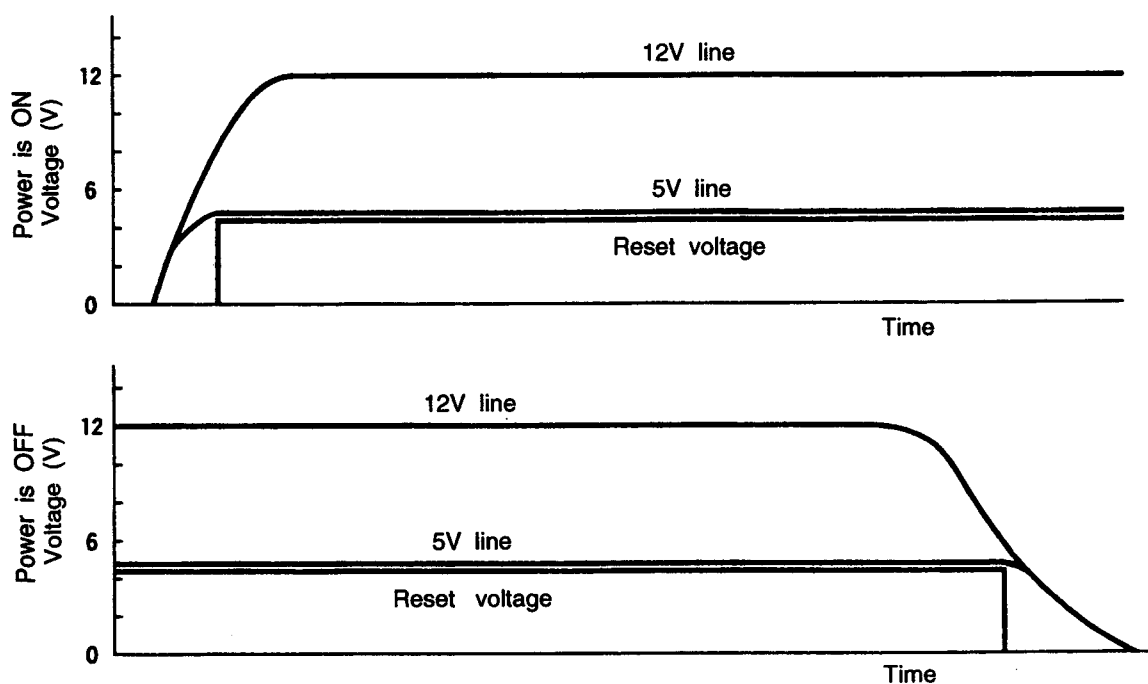

Fig. 11-2
- Fig. 11-1 shows the reset circuit and Fig. 11-2 shows waveform at each point when power is turned on and off.
- When power is turned on, 12V line and 5V line voltages rise and 12V line voltage reaches 7.2V (Zener voltage of ZD501), D501 is turned ON, Q301 and Q302 are turned ON and reset voltage input to pin ④⑧ of microcomputer is set to Hi. By ZD501, reset voltage maintains input of pin ④⑧ at Lo until V_{DD} of microcomputer rises to 5V to obtain operable status.